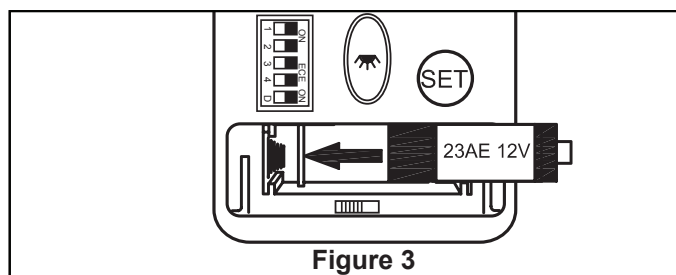

Figure 3
3. To make fan operational, remove the top panel then install 23A/12V battery (included) in wall control, with fan power off, arrange code switches to desired code setting. Then follow the remote code setting process. (If not used for long periods of time, remove battery to prevent damage to transmitter). Store the remote away from excessive heat or humidity (Figure 3).